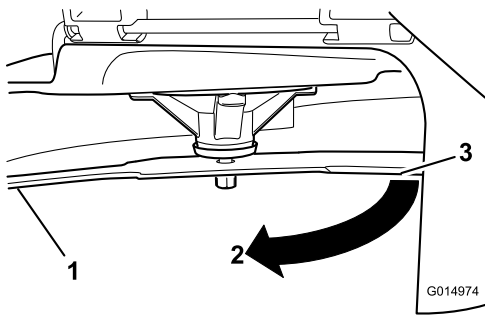

Figure 63
3. Measured distance between blade and the surface (A)
4. Rotate the same blade 180 degrees so that the opposing cutting edge is now in the same position (Figure 63).